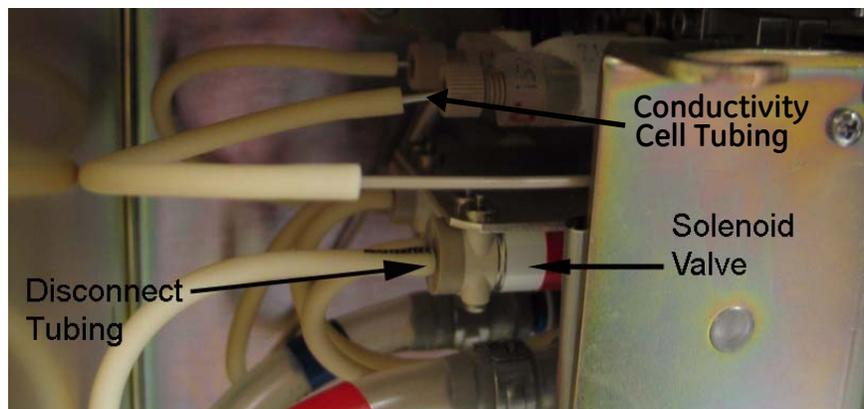

Figure 41: Disconnecting the Tubing from the Front Solenoid Valve
6. Remove the Masterflex tubing from the front solenoid valve and check to see if water is flowing through the restrictor tubing (see Figure 41).